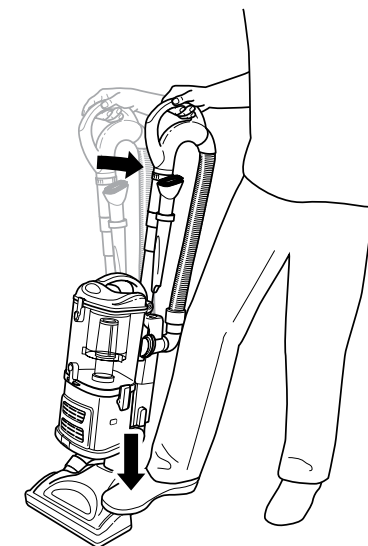

Fig. 12
- 4 Gently press the floor nozzle down with your foot while you grasp the handle and tilt it back towards you. **(Fig. 12)**